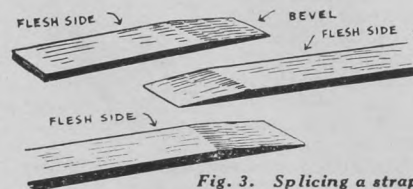
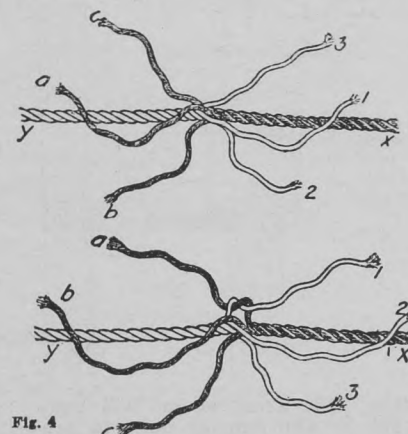

Fig. 3. Splicing a strap.
Fig. 4
Fig. 3 shows how to cut the ends of a strap for splicing. First cut each end square. The hair, or smooth side is much stronger than the flesh side, therefore
If there is a straight pull and the rope doesn't have to pass through a pulley, a short splice will do. The steps in making this splice are shown in (figs. 3, 4, 5 and 6). The two ends are unwound and then locked together so that those from one end pass alternately between those from the other end. Taking two strands from opposite sides, (a) and (1), (fig. 3) tie a simple knot (fig. 4). Repeat with (b) and (2) and with (c) and (3). Draw the knots tightly, then passing each strand of the rope diagonally to the left, tuck the ends under the strands of rope (y). Then turn the rope end for end and repeat by splicing down the strands of rope (y) (fig. 5). When the splice is completed each strand from both ropes should be spliced under at least two places, depending on the size of the rope and the strain it has to carry. The